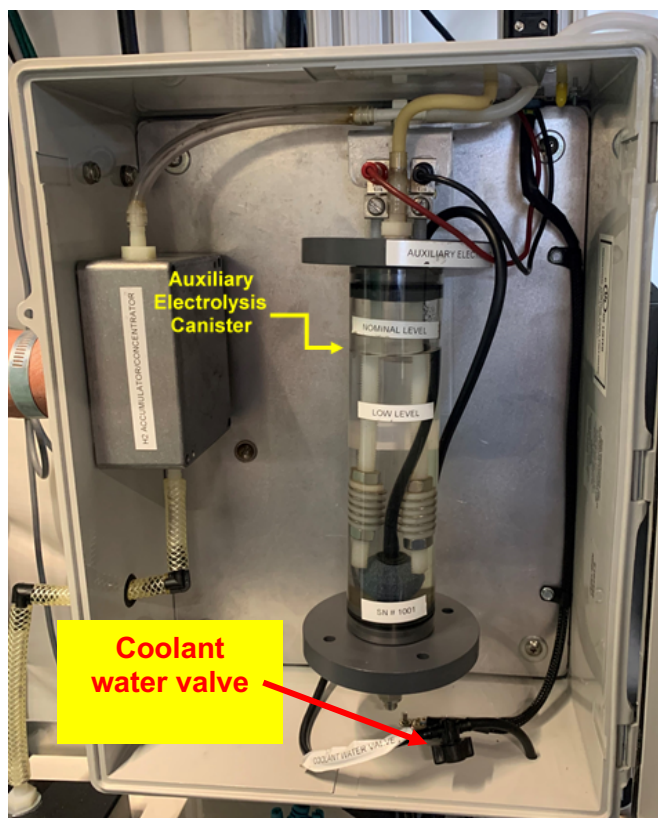

Figure 2: Coolant water valve
- 1.12 Turn coolant water valve (located on black tube behind the Auxiliary Electrolysis Canister) 90 degrees clockwise to “CLOSED”. (see Figure 2).